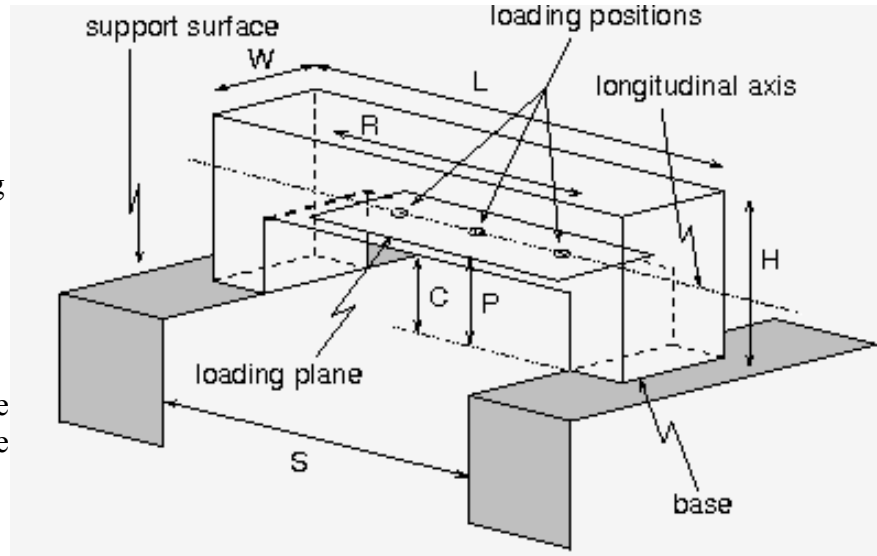

Figure 1. Schematic of Bridge (not to scale)
- b. The bridge (see Figure 1) must span a gap (**S**) of 300. mm, be no longer (**L**) than 400. mm, be no taller (**H**) than 180. mm above the support surfaces, and have a maximum width (**W**) of 70. mm. It must have a horizontal loading plane that is a height (**P**) above the support surfaces where $60. \text{ mm} \leq \mathbf{P} \leq 80. \text{ mm}$. The bridge structure may not project below the support surfaces.
- d. The bridge must have a minimum clearance (C) of 60. mm in height above the support surfaces. This clearance also extends 80. mm toward either end of the bridge from the center point of the bridge. No part of the bridge structure may be in this clearance area, and a 60. mm high, by 160. mm long block oriented with its 160. mm dimension parallel to the span of the bridge must pass cleanly under the bridge when the bridge is placed on a flat table top.